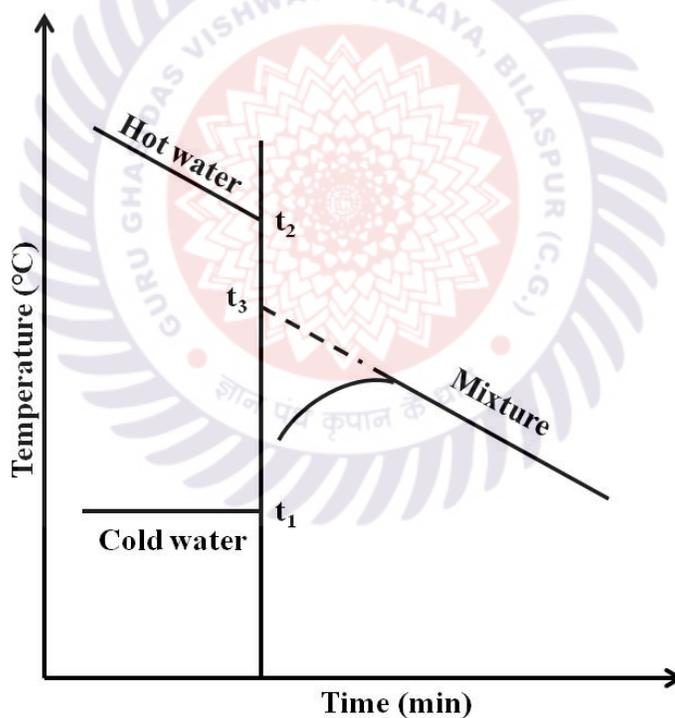

Figure 2.1: Experimental plot Time Versus. Temperature
- 2) Prepare 0.1 (M) 100 mL oxalic acid by accurate weighing (Table 1) and then standardize freshly prepared NaOH solution (Table 2). With this standardized NaOH solution calculate the strength of the supplied sulphuric acid exactly (Table 3).
- 8) On the graph draw a vertical line for the moment of mixing (when half volume of water has been transferred) and extrapolate the temperature time curve of hot water and mixture to this vertical line. The point of intersection gives the desired temperature (Figure 2.1).